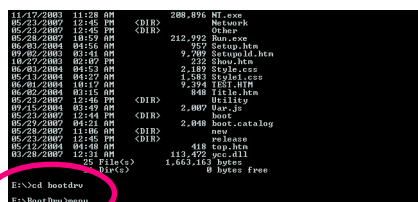

Figure 13
Step 1: Insert the prepared startup disk and motherboard driver CD-ROM in your system. Boot from the startup disk. Once at the A:\> prompt, change to the CD-ROM drive (example: D:\>). At the D:\> prompt, type the following two commands. Press ENTER after each command (Figure 13):